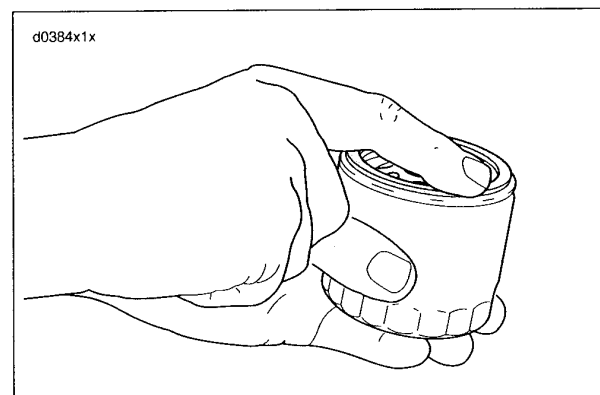

Figure 1-5. Lubing New Oil Filter
5. See Figure 1-5. Lube the gasket on **new** oil filter with engine oil and install **new** filter. Hand tighten oil filter 1/2 to 3/4 turn after gasket contacts filter mounting surface. Do NOT use oil filter wrench for oil filter installation.